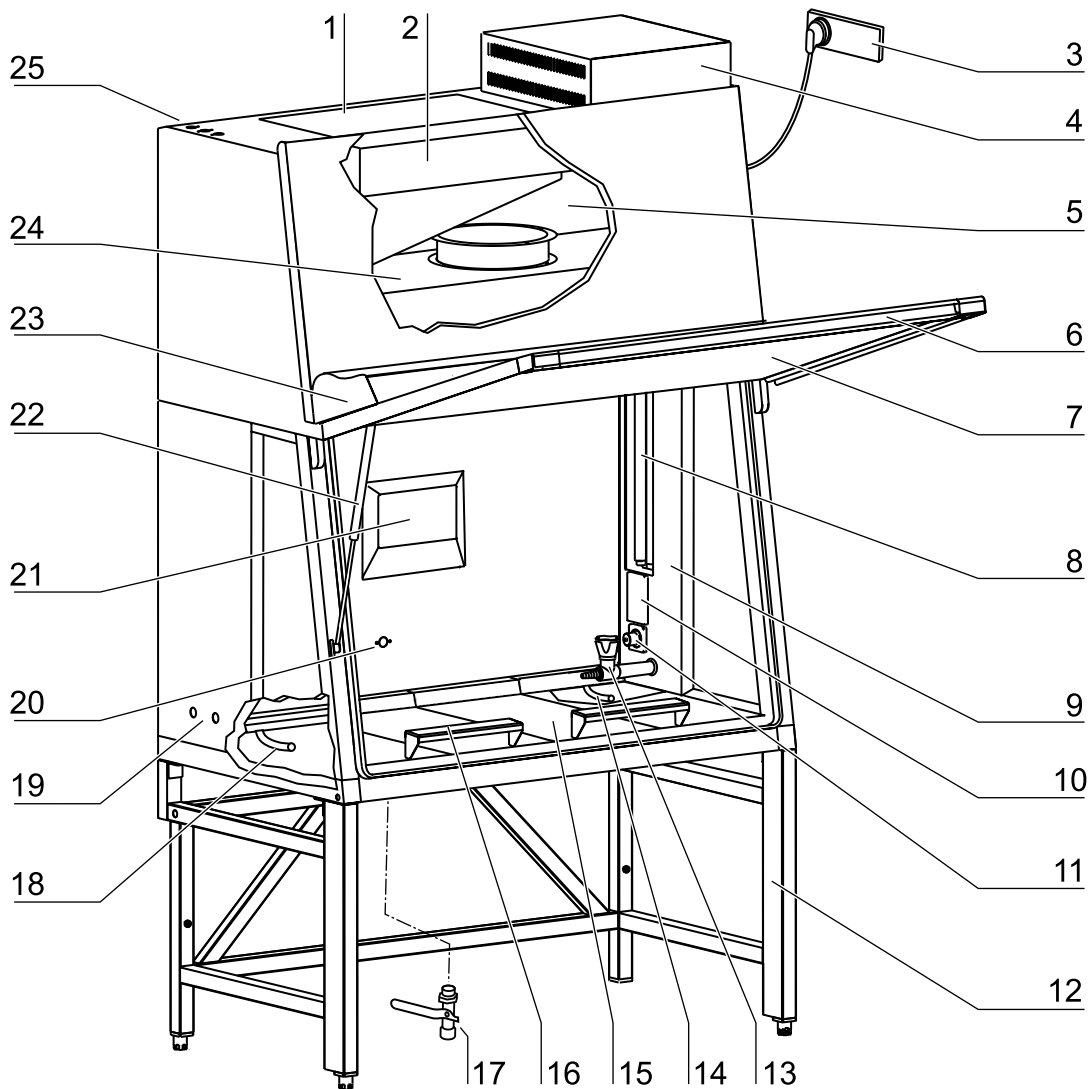

Fig. 3
- **Fig. 3:** Plenum [5] (assembly containing blowers and filters) with downflow blower [24] and exhaust air blower [2]. The device downflow filter and the exhaust air filter are installed with the corresponding blowers. Exhaust air is released through the opening [1].